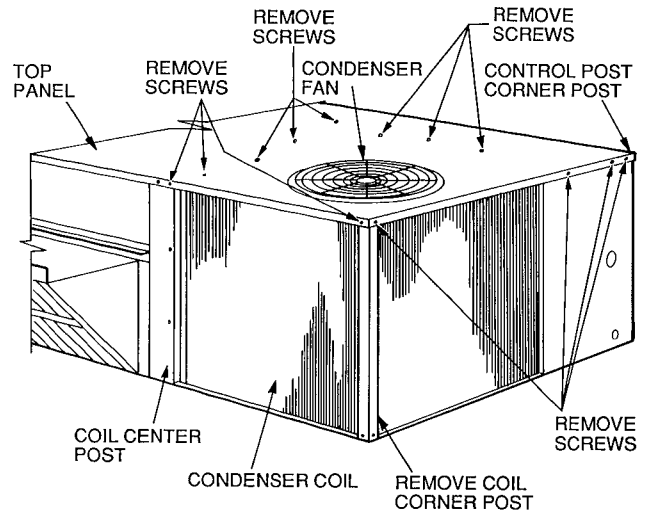
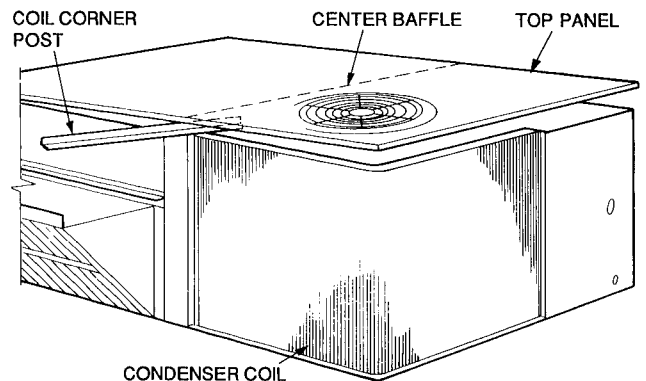

Fig. 24 — Cleaning Condenser coil
Fig. 25 — Propping Up Top Panel
3. Remove condenser coil corner post. See Fig. 24. To hold top panel open, place coil corner post between top panel and center post. See Fig. 25.